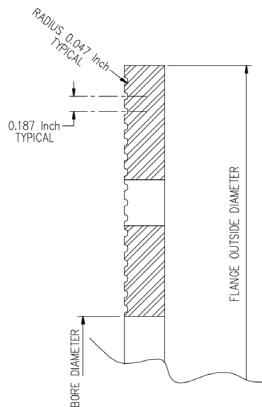
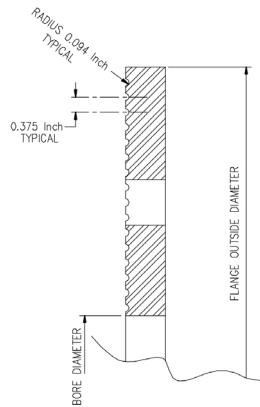

Figure 1 - Serrations for 2"-12" Flanges
Figure 2 - Serrations for 4"-30" Flanges
1. Check the flange faces of the pipe for rough/damaged areas. Pipeline flanges must be flat faced (NOT raised face), properly spaced, and parallel to achieve a proper seal. The flat flange face should be serrated as shown in Figure 1 (2-12 inch valves) or Figure 2 (14-30 inch valves). DO NOT mate DX Valves directly to expansion joints, or other compressible flange connections, such as a rubber flange connection.